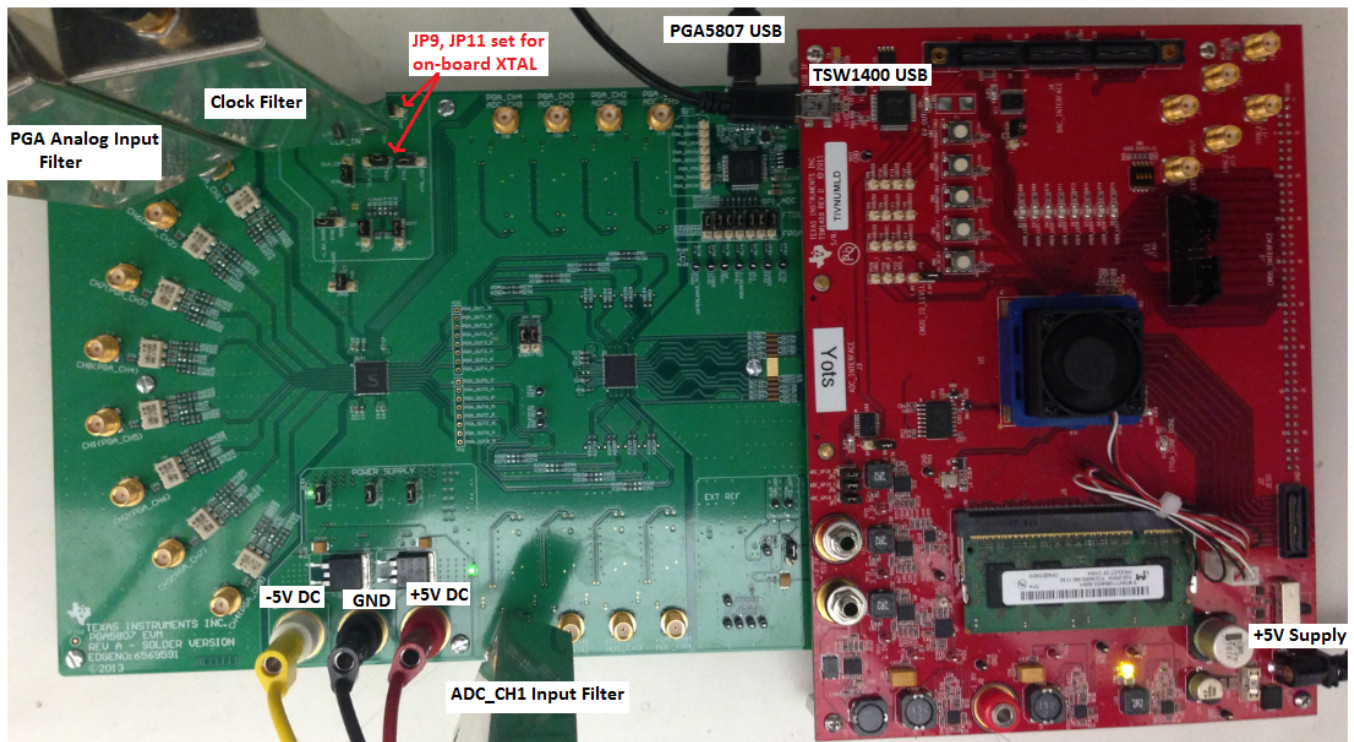
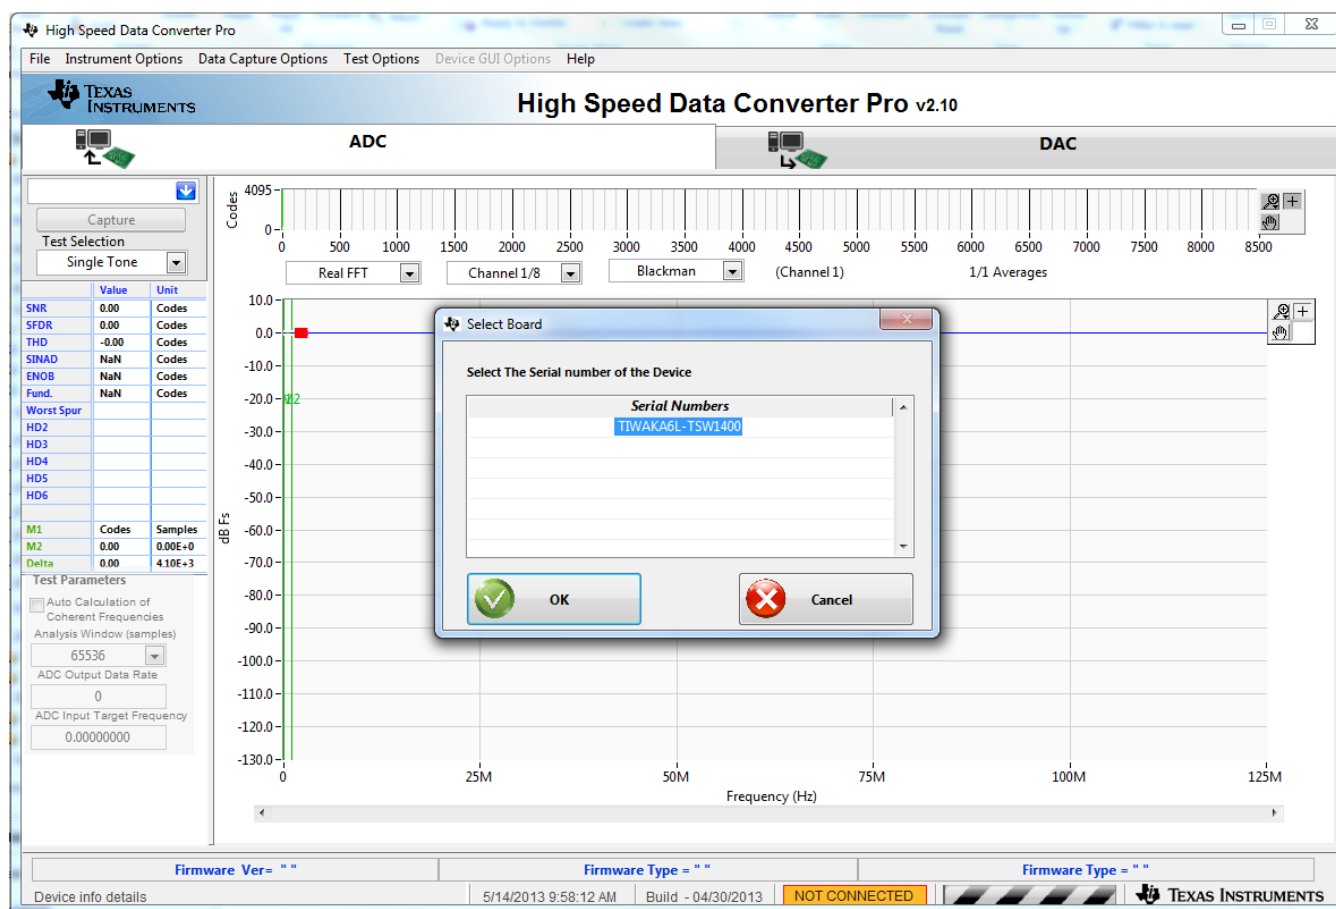

Figure 19. TSW1400 and PGA5807 Sptup
Figure 22. TSW1400 GUI Setup (a)
The connections shown in Figure 19 should be made for proper hardware setup (Note: Testing the LVDS interface between the PGA5807 EVM and the TSW1400 EVM can be performed by testing the ADS5296 which comes installed on the PGA5807 EVM. Using a RAMP test pattern function that is generated within the ADS5296 along with the on-board 80-MHz crystal oscillator (XTAL) that provides the ADC sampling clock, the LVDS interface can be tested with no signal generators required. This configuration is only recommended for testing the RAMP function as low phase noise filtered signal sources must be provided to the ADC clock input and the ADC analog inputs or PGA5807 analog inputs for measuring device performance. Also, the on-board XTAL providing the sampling clock to the ADC provides a 3.3-V signal at its output. This signal level exceeds the maximum voltage rating of the ADS5296 clock input port. Therefore, if EVM jumpers are configured such that the ADC clock port is single-ended, the clock input signal will exceed the maximum voltage rating of the device. This is not a problem for evaluation purposes but could have long-term reliability consequences on the device and is, therefore, not a recommended implementation).
1. With the setup outlined in Figure 19 established, launch the *High Speed Data Converter Pro* GUI. The GUI should automatically detect the serial number of the TSW1400 EVM, connected as shown in Figure 22. Click on OK.